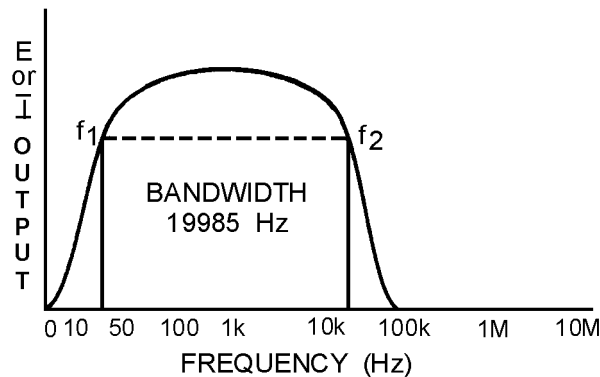

Figure 2-1.—Frequency response curve of audio amplifier.
Note the frequency-response curve shown in figure 2-1. This is the frequency-response curve for an audio amplifier as described in chapter 1. It is "flat" from 15 hertz (15 Hz) to 20 kilohertz (20 kHz).
The bandwidth represents the amount or "width" of frequencies, or the "band of frequencies," that the amplifier is MOST effective in amplifying. However, the bandwidth is NOT the same as the band of frequencies that is amplified. The bandwidth (BW) of an amplifier is the difference between the frequency limits of the amplifier. For example, the band of frequencies for an amplifier may be from 10 kilohertz (10 kHz) to 30 kilohertz (30 kHz). In this case, the bandwidth would be 20 kilohertz (20 kHz). As another example, if an amplifier is designed to amplify frequencies between 15 hertz (15 Hz) and 20 kilohertz (20 kHz), the bandwidth will be equal to 20 kilohertz minus 15 hertz or 19,985 hertz (19,985 Hz). This is shown in figure 2-1.
On figure 2-1, the two points marked f_1 and f_2 will enable you to determine the frequency-response limits of the amplifier. In this case, the limits are 15 hertz (15 Hz) and 20 kilohertz (20 kHz). You should now see how a frequency-response curve can enable you to determine the frequency limits and the bandwidth of an amplifier.
Figure 2-2 shows the frequency-response curves for four different amplifiers. View (A) is the same frequency-response curve as shown on page 5-6, figure 2-1. View (B) is the frequency-response curve of an amplifier that would also be classified as an audio amplifier, even though the curve is not "flat" from 15 hertz to 20 kilohertz and does not drop off sharply at the frequency limits. From the curve, you can see that the lower frequency limit of this amplifier (f_1) is 100 hertz. The upper frequency limit (f_2) is 10 kilohertz. Therefore, the bandwidth of this amplifier must be 10 kilohertz minus 100 hertz or 9900 hertz. Most amplifiers will have a frequency-response curve shaped like view (B) if nothing is done to modify the frequency-response characteristics of the circuit. (The factors that affect frequency response and the methods to modify the frequency response of an amplifier are covered a little later in this chapter.)